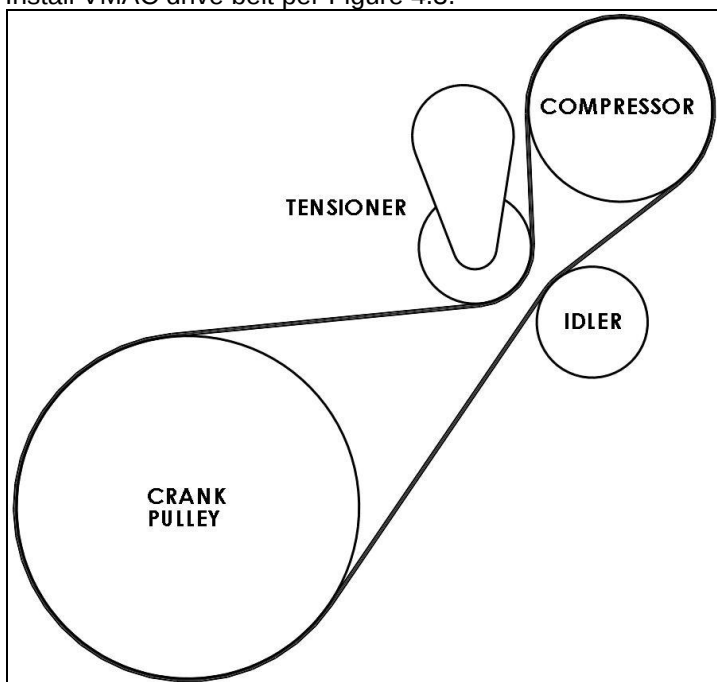

Figure 4.3
- ☐ Install VMAC drive belt per Figure 4.3.